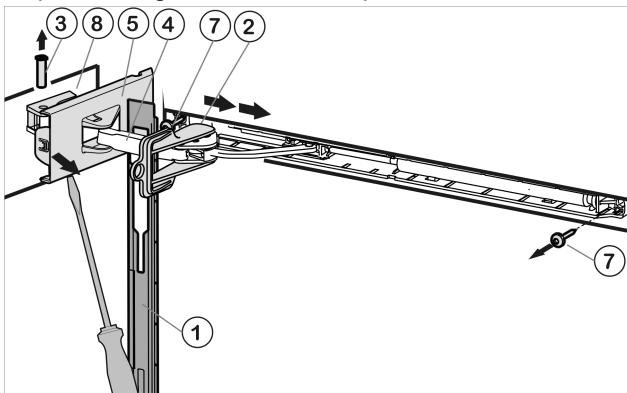

Fig. 15
- Push panel forward over the damper bracket Fig. 15 (4) in the direction of the appliance.
- Engage locking device Fig. 15 (2) into place inside oblong hole.
- Unscrew cover that is on the hinge side Fig. 15 (5) until the first notch using a screwdriver.
- Push bolt Fig. 15 (3) out from below.
- Press damper bracket Fig. 15 (4) in the direction of the door.
- Completely loosen cover that is on the hinge side Fig. 15 (5) and remove.
- Remove panel Fig. 15 (1).
- Unscrew soft stop unit (2 x Torx 15) Fig. 15 (7).